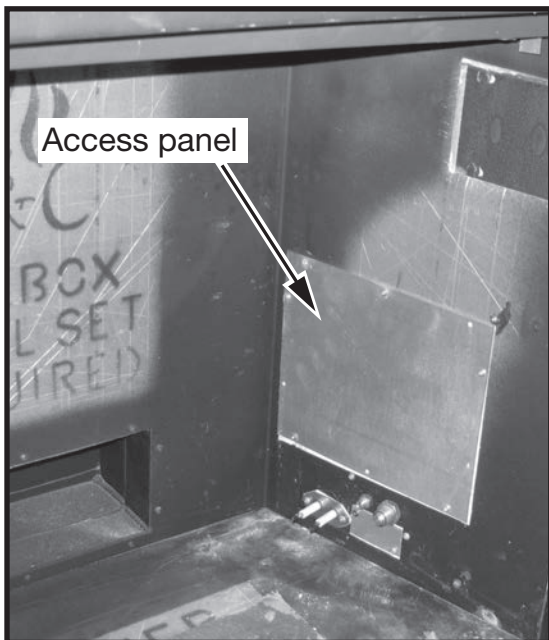

Figure 4: Access panel.
2. Remove access panel from right hand side of the firebox (Figure 4).